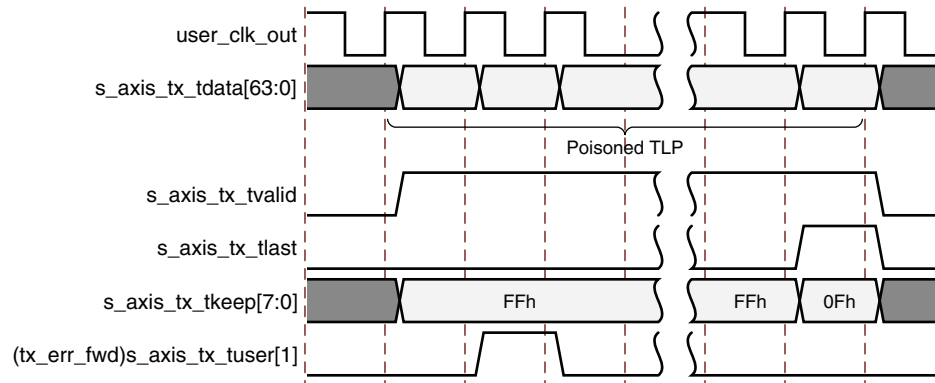

Figure 3-12: Packet Data Poisoning on the Transmit Interface
- Assert `s_axis_tx_tuser[1]` (`tx_err_fwd`) for at least one valid data transfer cycle any time during the packet transmission, as shown in Figure 3-12. This causes the core to set EP = 1 in the TLP header when it transmits the packet onto the PCI Express fabric. This mechanism can be used if the user application does not know whether a packet could be poisoned at the start of packet transmission. Use of `terr_fwd` is not supported for packets when `s_axis_tx_tuser[2]` (`tx_str`) is asserted (streamed transmit packets). In streaming mode, you can optionally discontinue the packet if it becomes corrupted. See Discontinuing Transmission of Transaction by Source, page 51 for details on discontinuing packets.